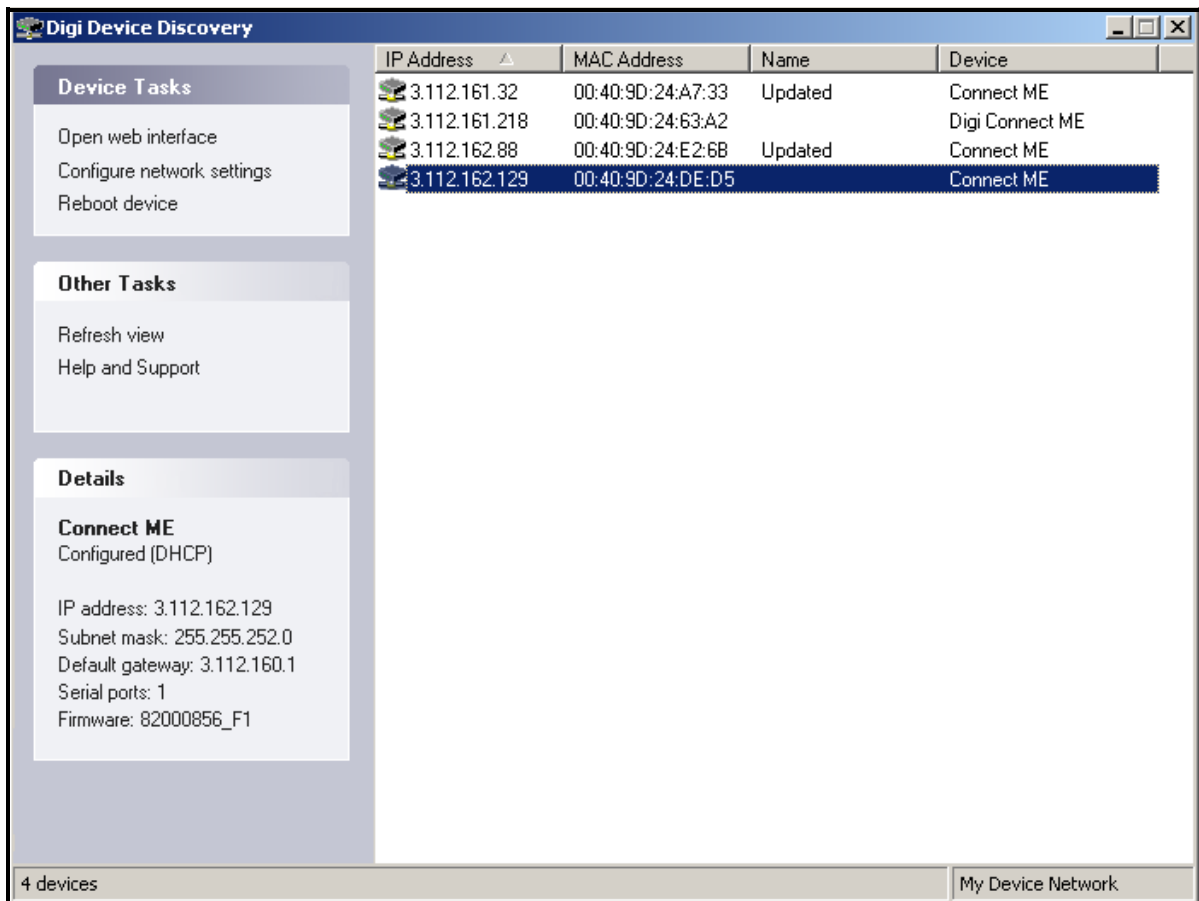

Figure 22: Finding the Assigned IP Address
1. Run the *Digi Device Discovery Program* (see Figure 22 below).